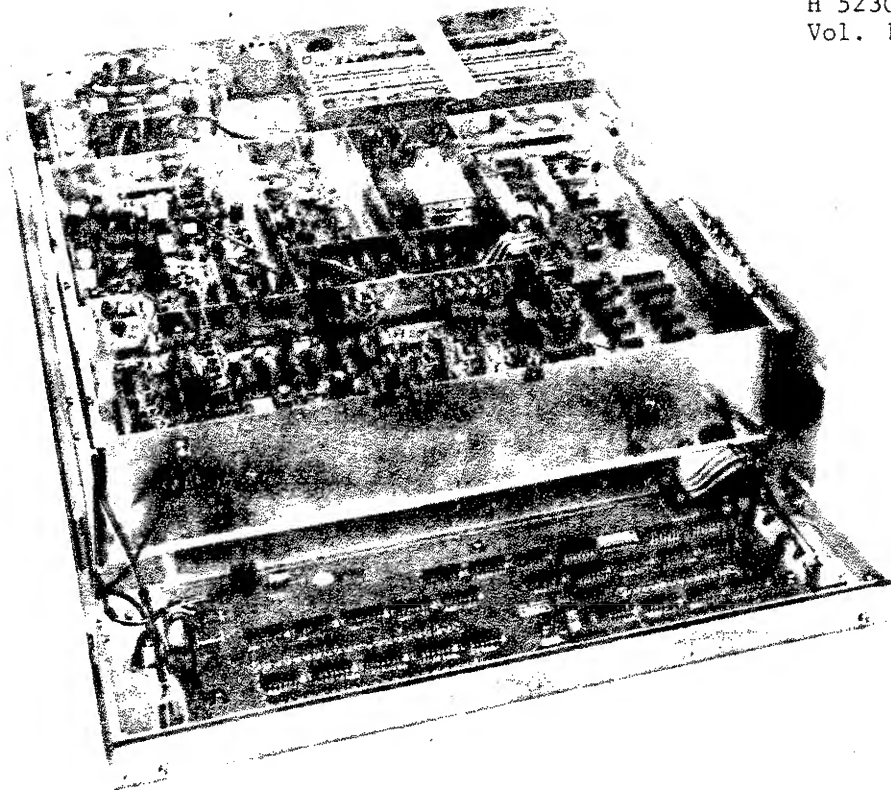

Fig. 1 Internal view of 2305 with front panel folded down
(1) The front panel assembly. This is made up from the keyboard and the display which are directly controlled by the microprocessor.
(2) The rear panel assembly. This comprises the power supply and a card guide. The guide contains the circuit boards for the microprocessor and memories, the counter and voltmeter.
(3) The RF box. This is compartmented and contains most of the analogue signal processing circuits. The circuits are set up and interconnected in response to digital instructions which are latched onto a separate internal bus system so freeing the RF box from the risk of interference which would follow from direct interaction with the microprocessor. The construction may be seen in the photograph in Fig. 1.